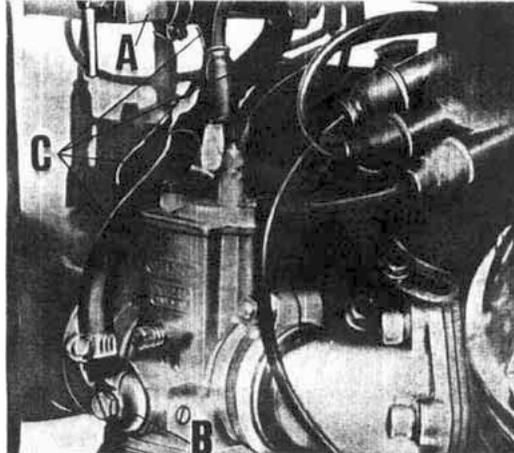

Fig. 20
### Filters and fuel lines (See fig. 20)
Every 10.000 kms. or so (6000) miles or any time fuel flow to the carburetors is not regular, it is necessary to check if there are no leakages at the fuel line connections (See C fig. 20) of if the filter on the taps (A) and the carburetors (B) are clean. If the plastic lines have got too hard at their connecting ends, replace them with original equipment.